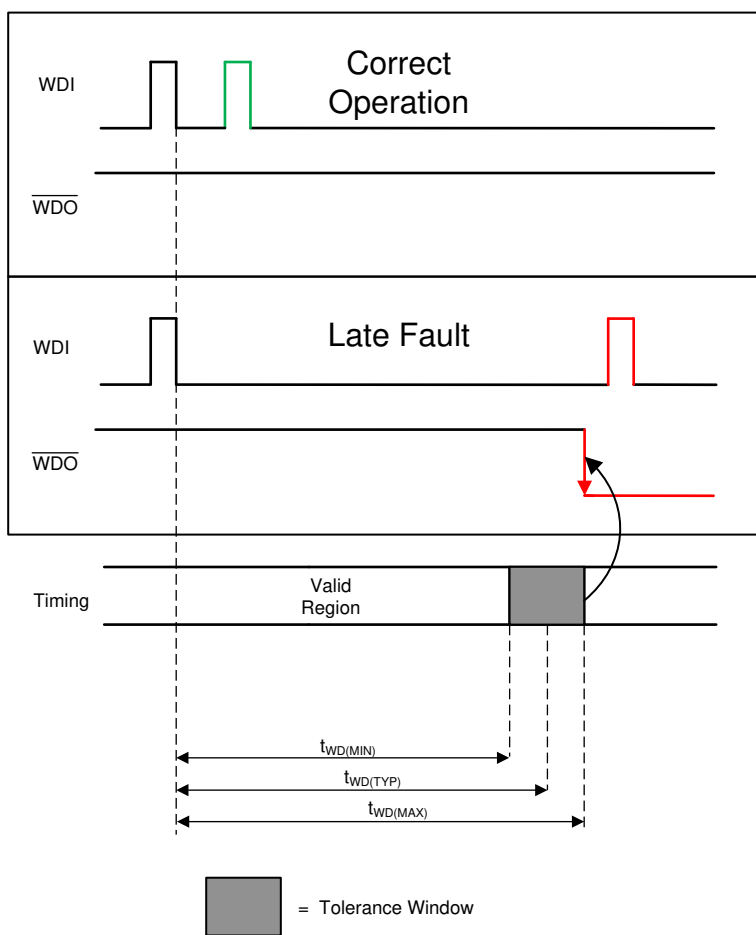

图 6-2. Watchdog Timing Diagram
A. See 图 6-2 for WDI timing requirements.